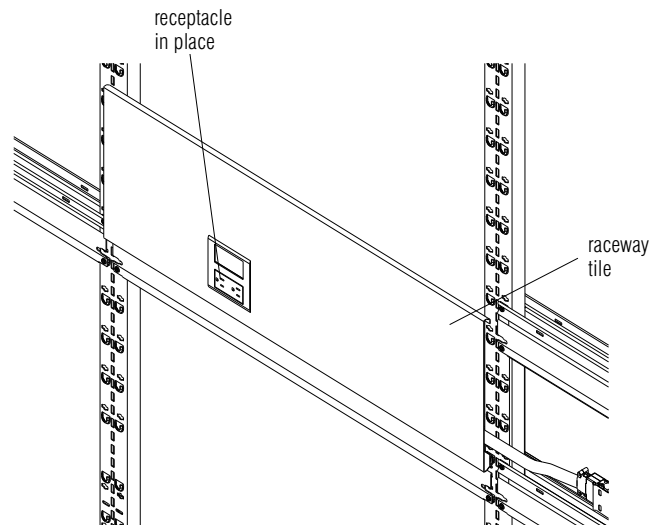

Figure 46
4. Hang the raceway tile on the top hooks, then allow the tile to rotate down and snap the lower portion of the raceway tile into place by applying firm pressure near the location of the hooks. **Figure 46.**